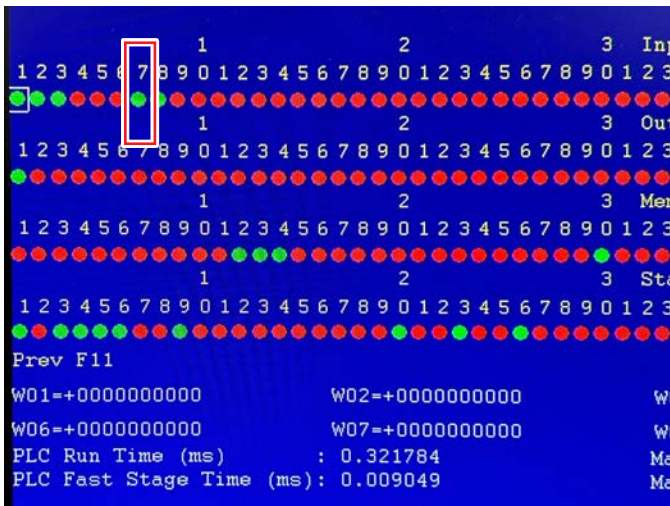

FIGURE 28
C. With the tool setter touching the end of the tool, the red light on Input #7 should turn to green. If so, your connections are correct and the control is receiving the signal (see Figure 28).